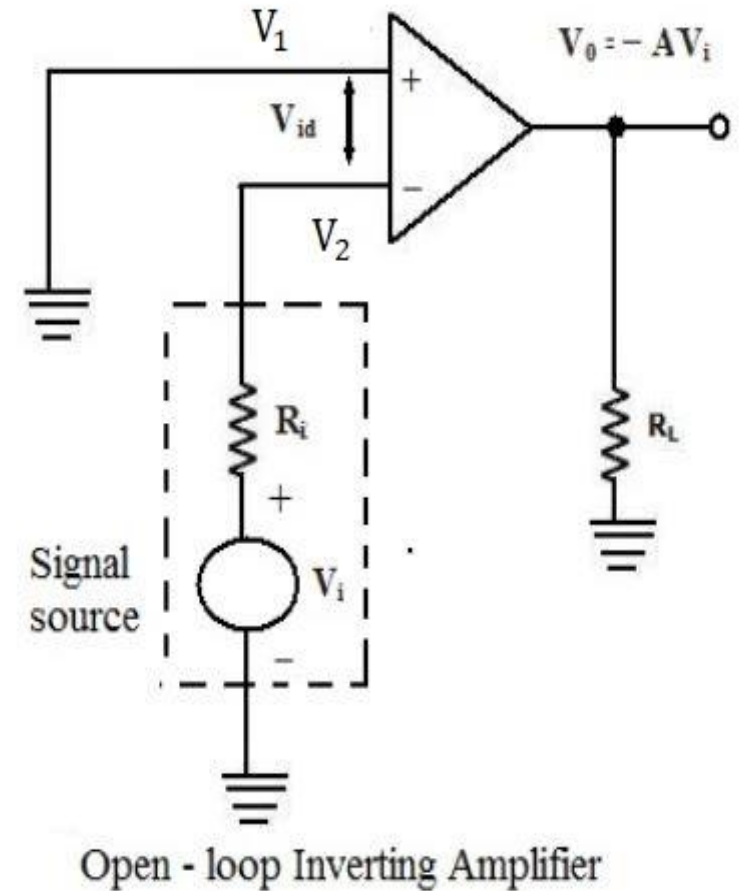

Fig. 10. Open-loop inverting amplifier
- Open-loop noninverting amplifier is shown in Fig. 10.
- From Fig. 10,